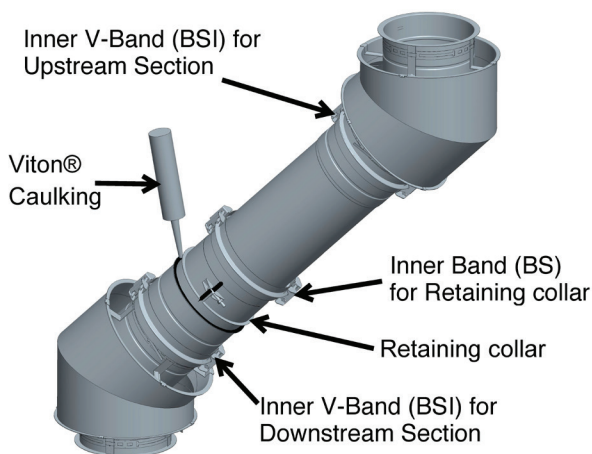

Figure 17- Step 7-9- Secure the Double Flanged Sleeve and seal the Retaining Flange Collar
Step 8 - Apply thin layer of sealant inside the retaining collar, and also a continuous bead of sealant at the collar overlap seam. See Figure 17.